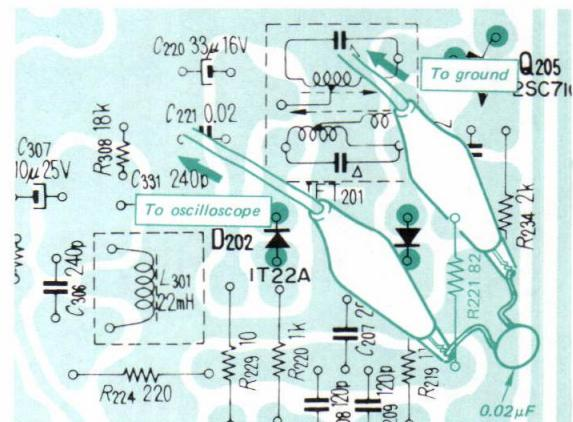

Fig. 3-3. Fm discriminator output connection
1. Connect the input cable of the oscilloscope with alligator clips to R221 and ground on the tuner and MPX board, and solder a $0.02\mu F$ capacitor across these clips, as shown in Fig. 3-3.